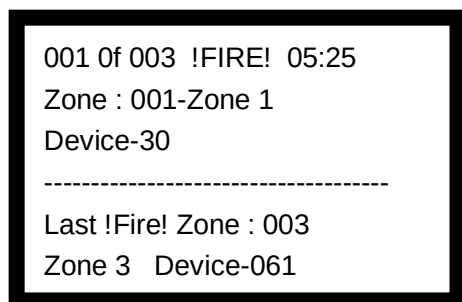

Fig.5-3
1. Fig. 5-3 shows fire alarm screen in zone display mode.